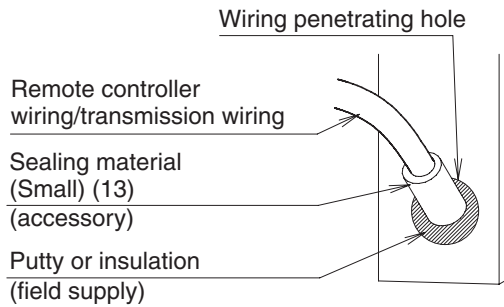

Fig. 24
- After connecting the wiring, make sure to stick the sealing material (Small) (13) to the wiring penetrating hole to prevent water from entering the indoor unit. **(Refer to Fig. 24)**